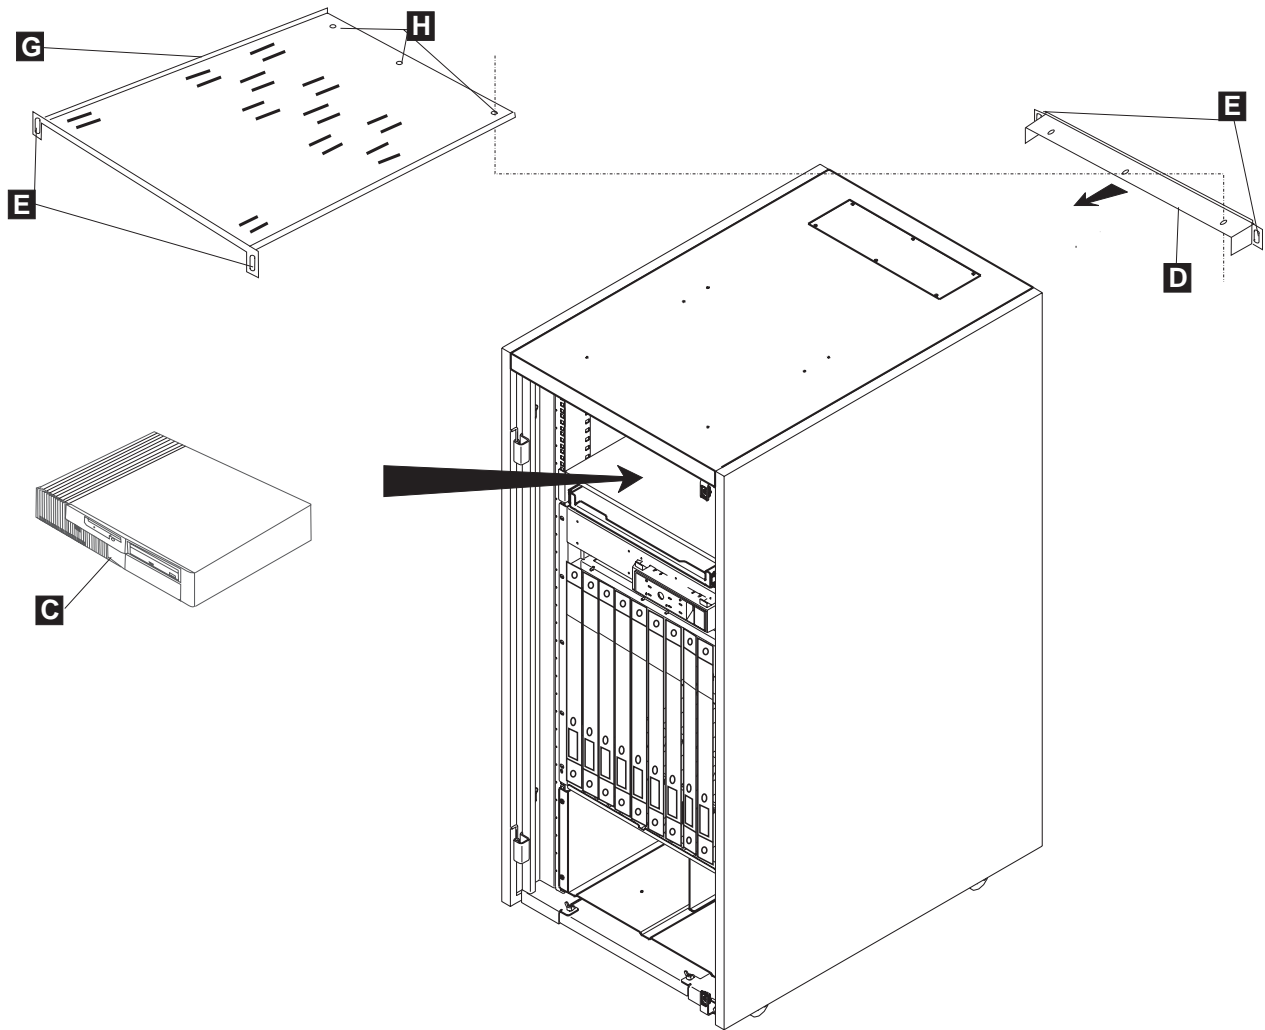

Figure 1-24. Upper Plate Installation in 29 U Rack
4. ____ From the front of the rack, install the upper plate (PN 42L2851) **G** into the rack (see Figure 1-24 on page 1-19). The rear part of the upper plate must be on the top of the support **D** previously installed.
5. ____ Secure the upper plate **G** on the front of the rack with screws (PN 43G3084) **E**, and on the support **D** with screws M4 (length: 8mm) **H** (refer to Figure 1-24 on page 1-19).